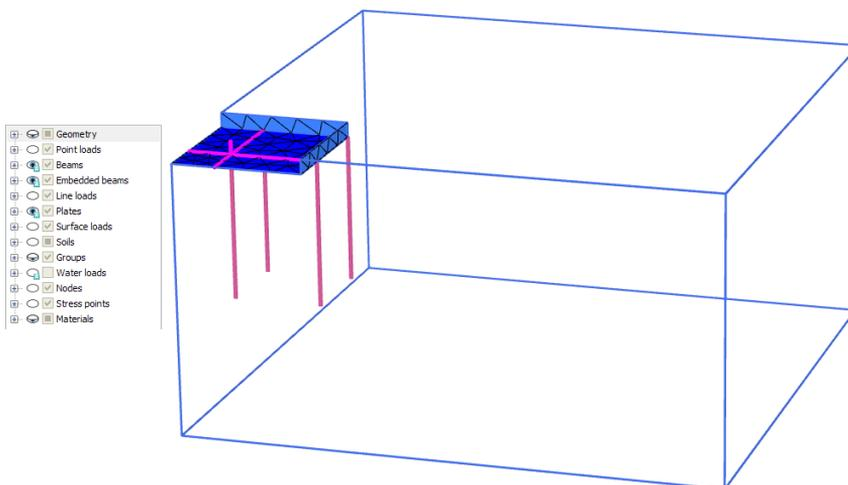

Figure 1.22 Partial geometry of the model in the Output
- Click the eye button in front of the *Soil* subtree in the *Model explorer* to hide the soil. The embedded beams can be seen (Figure 1.22).